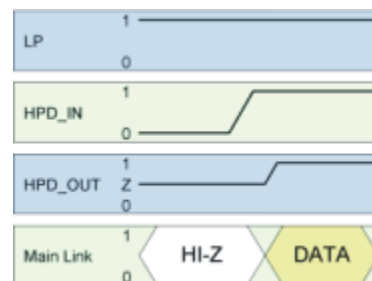

Figure 15.
- Case two: In this case HPD_IN is initially LOW and the low power pin is HIGH. In this initial state the device is in a low power mode. Once the HPD input goes to a HIGH state the device comes out of the low power mode and enters active mode, enabling the main link and auxiliary I/O. The HPD output to the source is enabled and follows the logic state of the input HPD (Figure 15). This is specified as $t_{Z(HPD)}$.